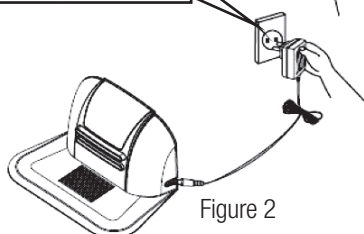

Figure 2
3. Connect the output terminal of the adaptor with DC socket on the charging station. (Refer to Figure 2)